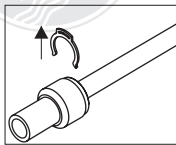

Fig. 1
- 1) Remove safety clips from quick connector (Fig. 1).